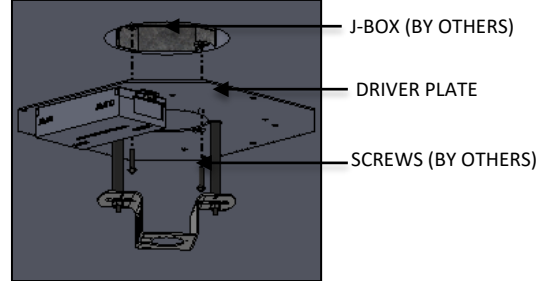

FIG. 8 – DRIVER PLATE INSTALLATION
2. Attach the DRIVER PLATE to the MOUNTING SCREWS located inside the JUNCTION BOX (by other) as shown in FIG. 8.